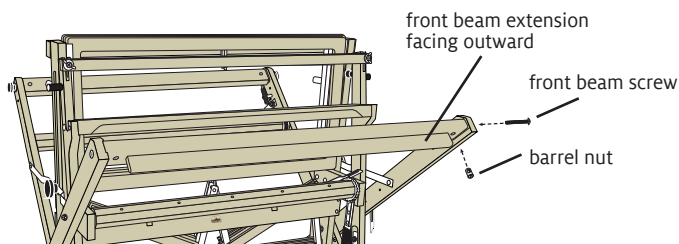

FIGURE 2: REATTACHING THE FRONT BEAM
4. Reattach the front beam: Orient the front beam so that its extension faces outward, as shown in Figure 2. Install the front beam in this position with its screws and barrel nuts.